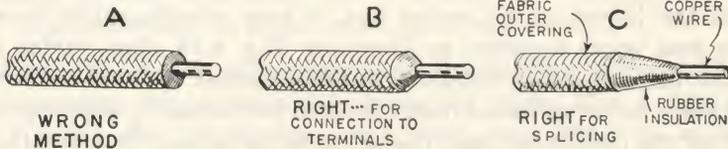

Fig. 4-10. Wrong and right methods of removing insulation from wires.
**Removing Insulation:** Before a wire can be attached to a switch or other device, or spliced to another wire, the insulation must be removed. There is a right way and a wrong way to do this. Do not cut it off sharply, as shown in A of Fig. 4-10; there is too much danger of nicking the copper
wire, leading to breaks later. If the wire is to be attached to a terminal, hold your knife at an angle as shown in B of Fig. 4-10. If the wire is to be spliced to another wire, hold the knife as in sharpening a pencil, as shown in C in the same picture.